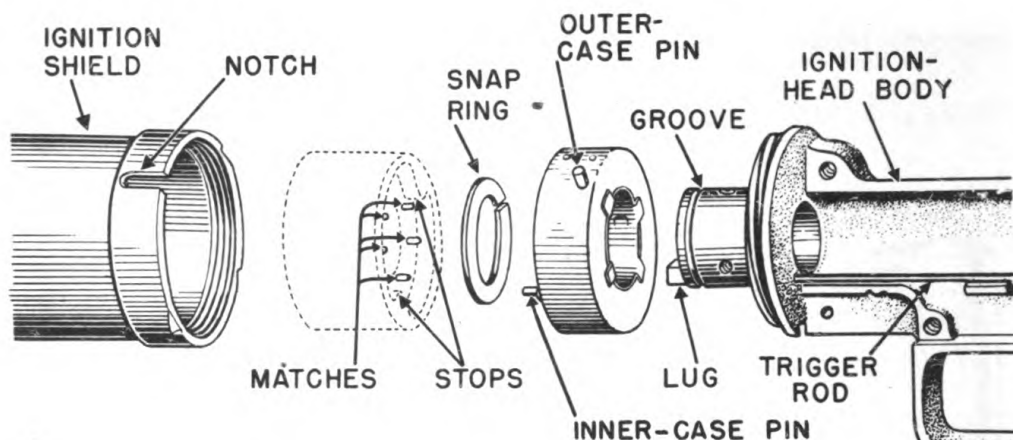

Fig 56. Parts of ignition head and ignition cylinder.
(b) The inner-case pin (Fig 56) engages a stop on the inside of the ignition cylinder. The five projecting metal matches on the inside of the ignition cylinder are each in turn stopped by the lug on the forward-facing surface of the ignition-head body.
(8) Ignition shield, a cylindrical, thin-metal tube with a conical front end. The shield guides the flame and protects the firer. Eight holes around the base of the cone provide an air intake for burning the fuel. The base of the shield is threaded, and it screws onto the ignition-head body. A notch (Fig 56) in the base of the shield receives the latch and the outer-case pin of the spring case.